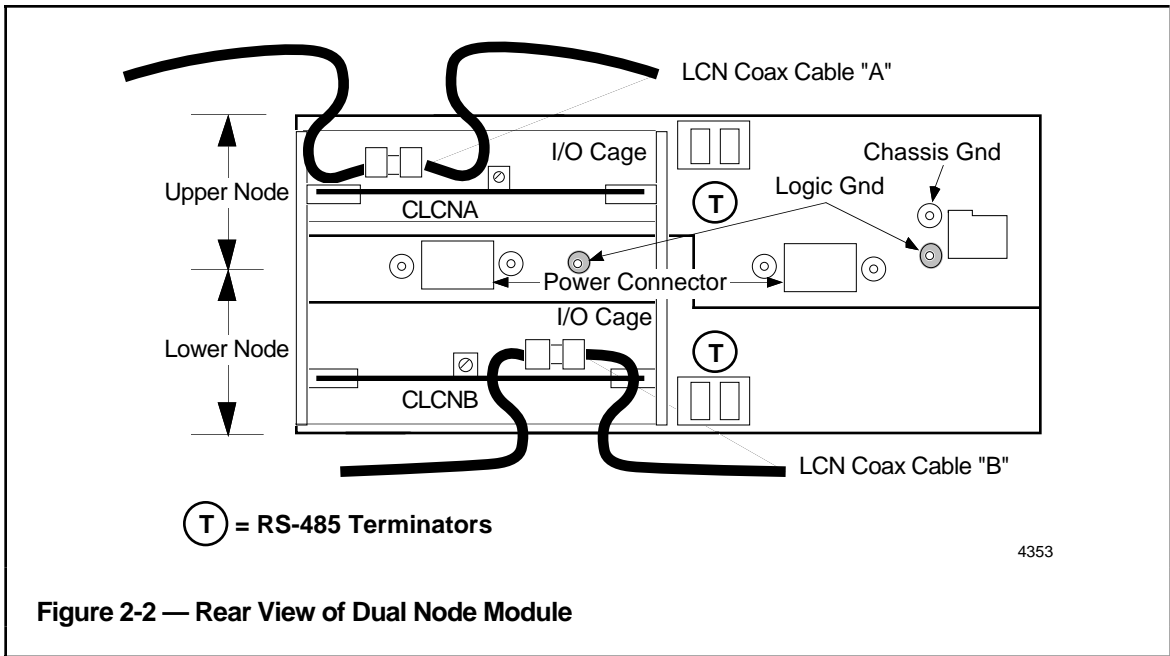

Figure 2-2 — Rear View of Dual Node Module
Table 2-1 shows the basic (minimum) module configurations for single- and double-node modules. The Application Module (AM) uses the basic configuration. Other module types require additional boards, as covered in subsection 2.3. Figure 2-2 is a rear view of a Dual Node Module showing the LCN A and LCN B coaxial cable interconnects and the RS-485 terminator assemblies that are installed on the backplane at the top and bottom ends of the RS-485 signal conductors. Four terminator assemblies are required—two at the top and two at the bottom of the backplane.